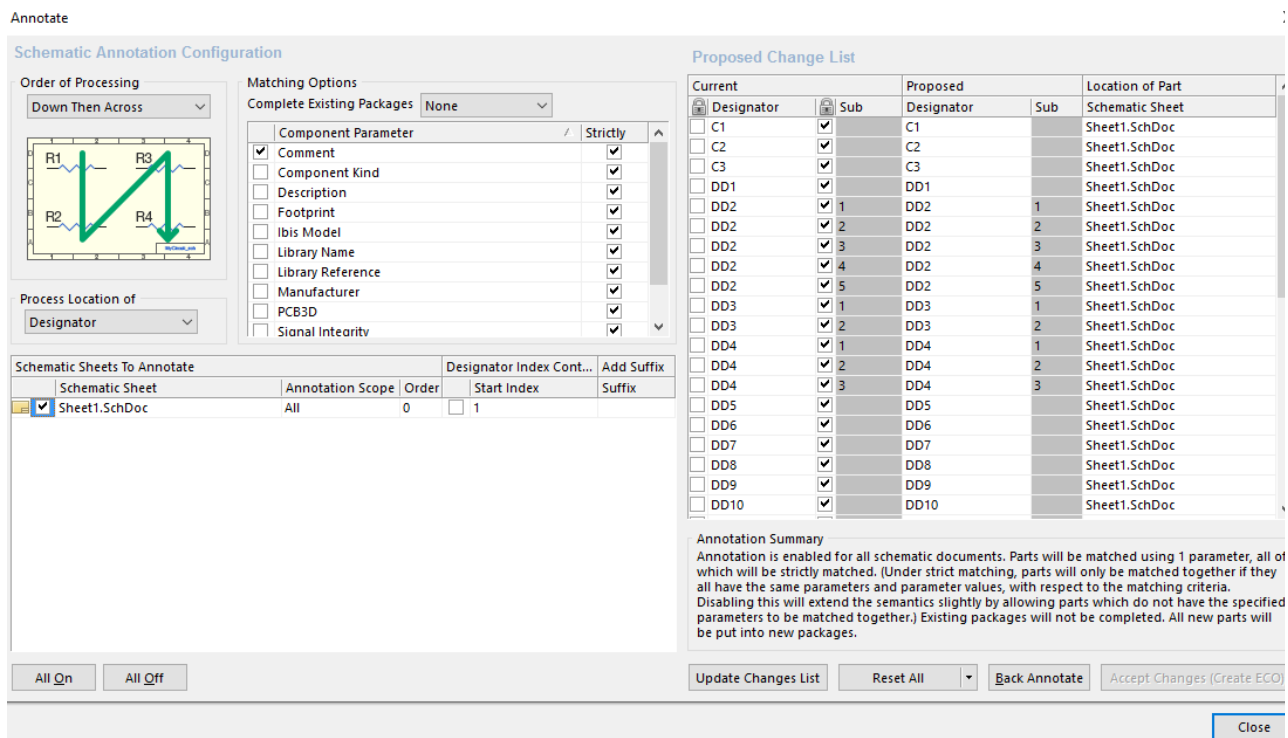

Рис.10. Annotation Schematics
**Tools > Annotation > Annotation Schematics** (Рис.10)